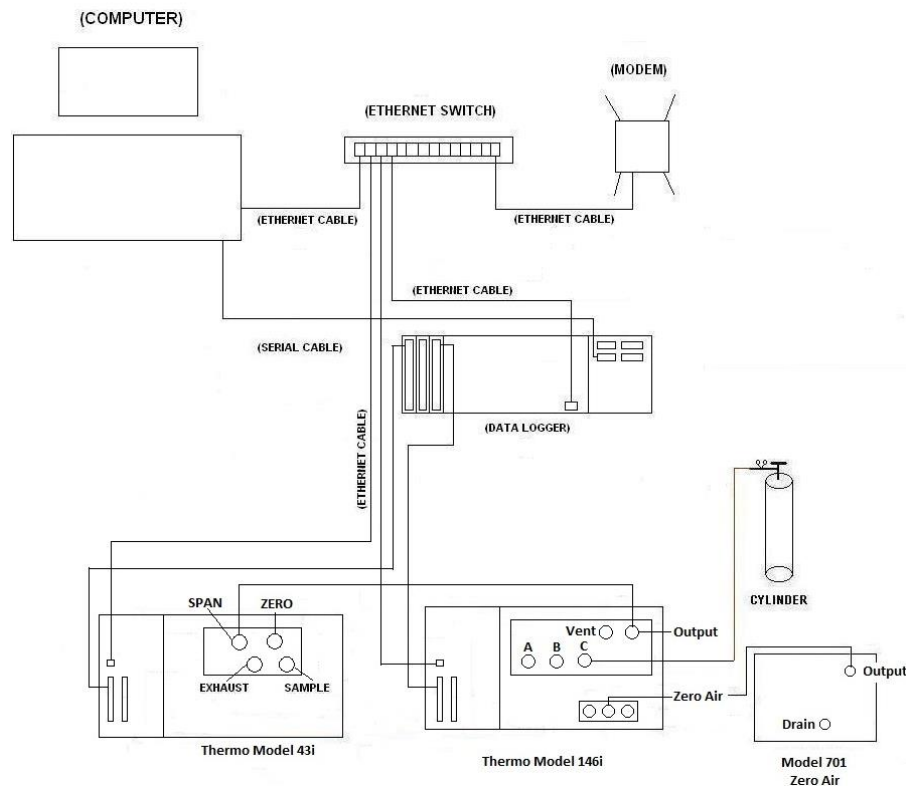

Figure 4: Plumbing and Wiring Diagram for Monitoring Setup
The ECB will install the monitor and its support equipment. Acquiring access to a site, and approval of the site is the responsibility of the DAQ regional office and the Projects and Procedures Branch. Internet/wireless service and electrical power should be secured along with any needed permits, new wiring, etc., prior to installation of the monitor equipment. The site location must meet the applicable site requirements and be approved by the Projects and Procedures Branch Supervisor and EPA. Refer to Figure 4: Plumbing and Wiring Diagram for Monitoring Setup and for general schematic of the set-up.
3. Connect the monitor, modem, data logger, and computer as shown in Figure 4: Plumbing and Wiring Diagram for Monitoring Setup. Observe polarity markings.
23. Added Figure 4: Plumbing and Wiring Diagram for Monitoring Setup.